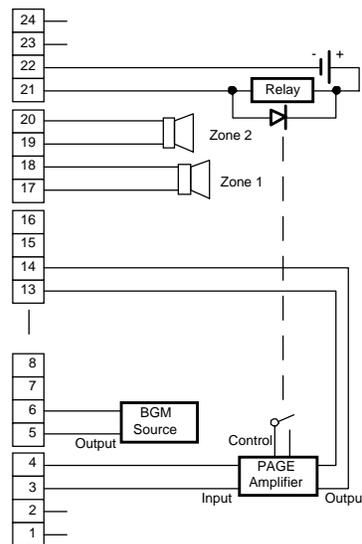

FIGURE 44. ZONE PAGING WIRING
7. Connect the page amplifier power control relay (SLAVE) to the PAGE CONTROL(+) and (-) pins on the punchdown block as illustrated in Figure 44. (Not required in all installations.)
8. Connect the page amplifier output for P.A. zone speakers to ZPA (+) and (-) pins on the punchdown block as illustrated in Figure 44.